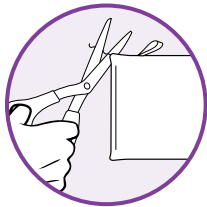

fig.26
- 2 If there are loose threads on the micro-fiber cleaning pad carefully cut the thread with scissors. Don't pull on them or cut at the base. (fig. 26)